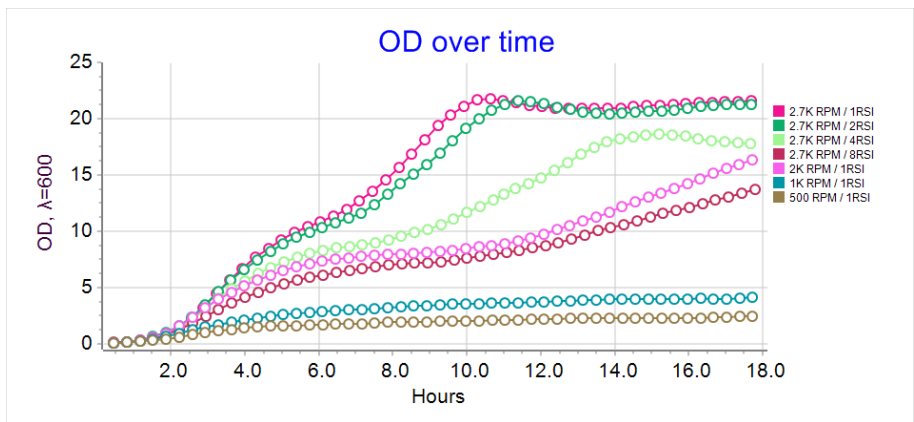
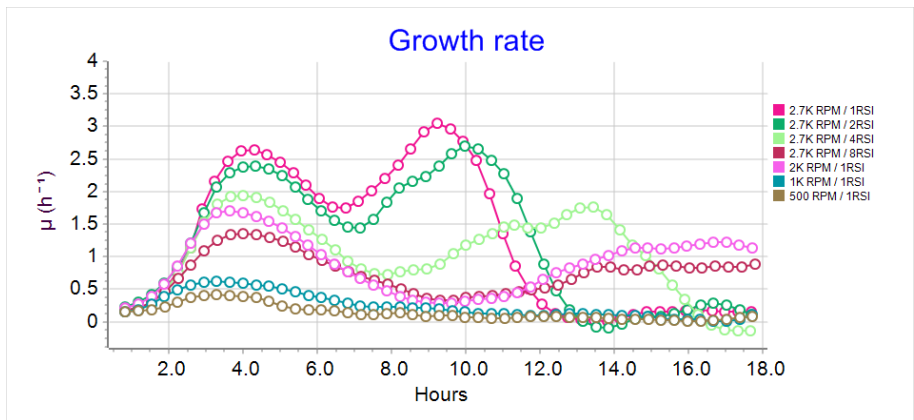

Figure 5. Influence of Interval of Reverse Spinning and RPM on the Growth kinetics ($\Delta OD_{\lambda=600nm}/\Delta t$) vs Time of fermentation (h).
Figure 6. Influence of Interval of Reverse Spinning and RPM on the Growth kinetics ($\Delta OD_{\lambda=600nm}/\Delta t$) vs Time of fermentation (h).
It is known that aeration affects the growth and growth rate of aerobic microorganisms. The RSI and RPM affect the rate of oxygen uptake in the bioreactor. Results obtained in fig. 5 and fig. 6 indicate that the maximum rate of cell division is detected at RSI of 1 s^{-1} at a speed of 2700 rpm. The increase of pause between reverse spins reduces cell growth rate and OD yield, reaching ~44% of the maximum value (RSI 1 s^{-1}), when RSI is 8 s^{-1} .
8.2.1. Legend of experiment (fig. 5.): Multi-channel bioreactor RTS-8 was used with 850 nm laser, volume of Terrific Broth (TB) in 50 ml Falcon tube was 10 ml, RSI 1, 2, 4, 8 s^{-1} , MI 10 min, RPM 2000, temperature 37°C , TPP Bioreactor vessels.